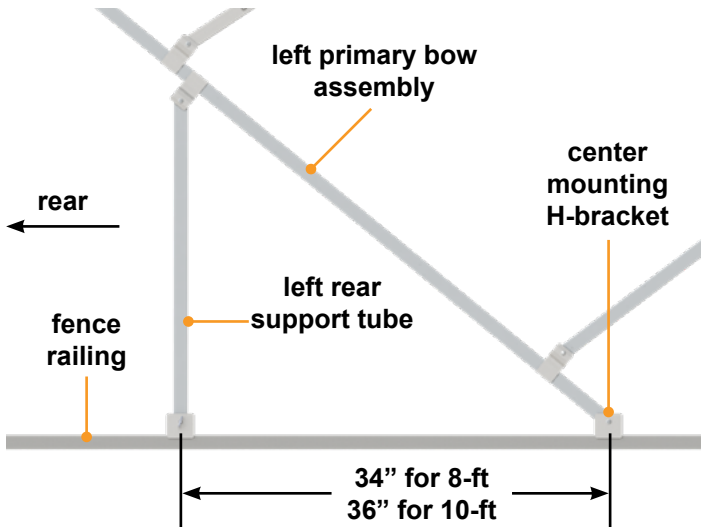

Fig.23
1. Use a tape measure and pencil to locate and mark along the left and right fence railings (Fig.23):